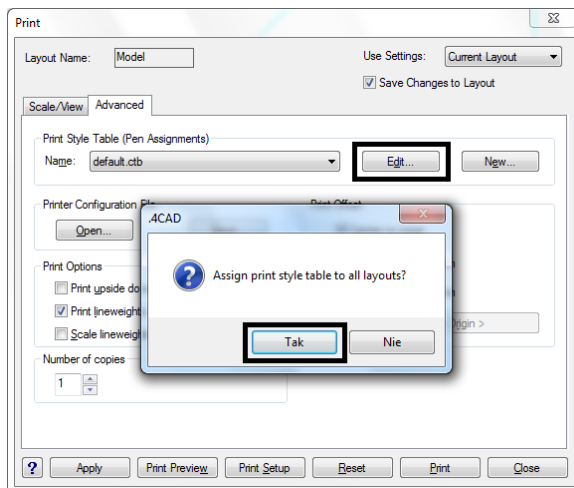

Fig. 333 – Print style table option
- select the position **default.ctb** in the **Print** dialog box → the **Advanced** tab → the **Print style table (Pen Assignments)** section → the drop-down menu of the **Name** option (Fig. 333);